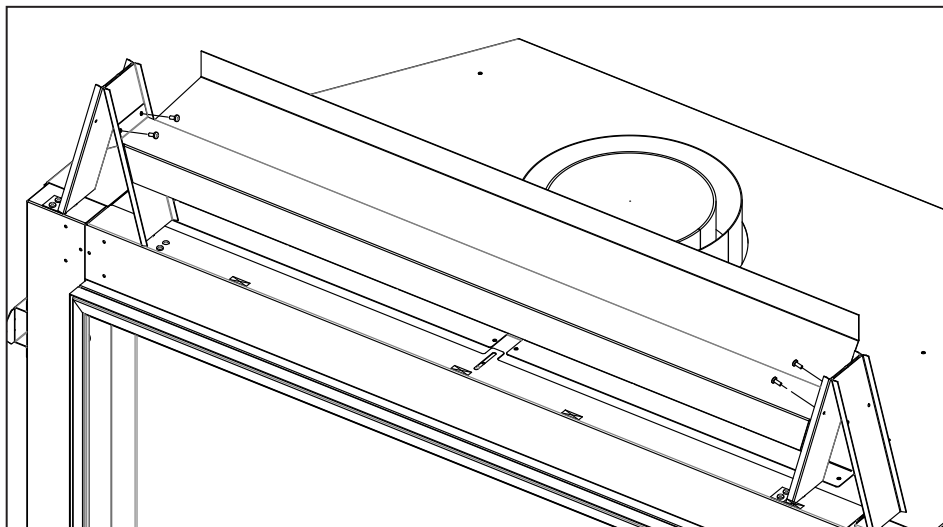

Figure 33: Top Standoff Support Install
3. Install heat shield support using four (4) supplied T-20 screws (see Figure 33).